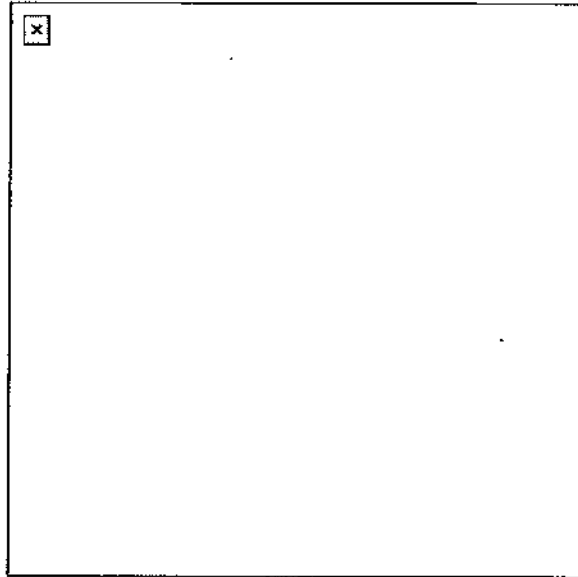

Figure 4. Loopole position.
- (1) Break or blow several small holes in the wall (Figure 4) to allow the firer to observe and engage targets in his sector. Making several holes allows the firer to move from one to another to deceive the enemy about his location.